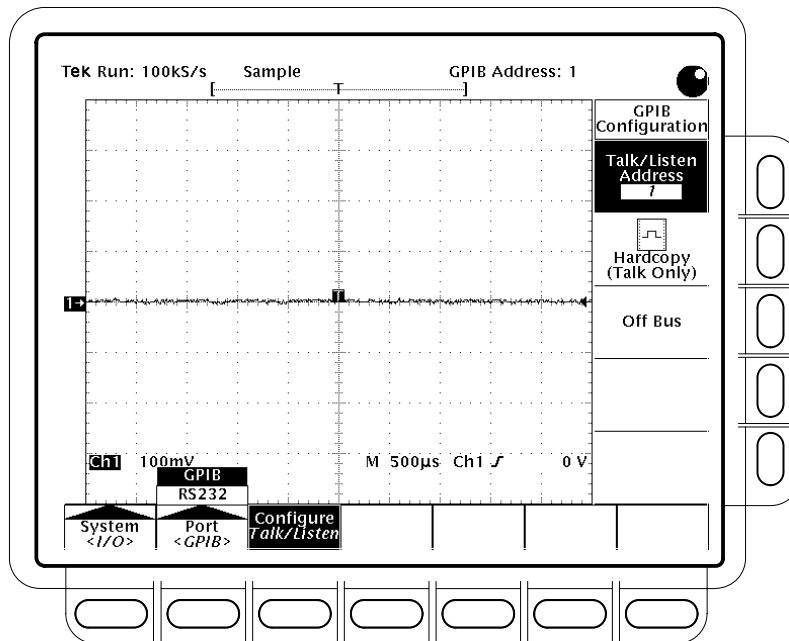

Figure 3: Selecting the GPIB address in the GPIB configuration side menu
3. Press the **Port** button in the main menu until it highlights the **GPIB** selection in the pop-up menu. See Figure 3.
4. Press the **Configure** button in the main menu to display the GPIB Configuration side menu. See Figure 3.